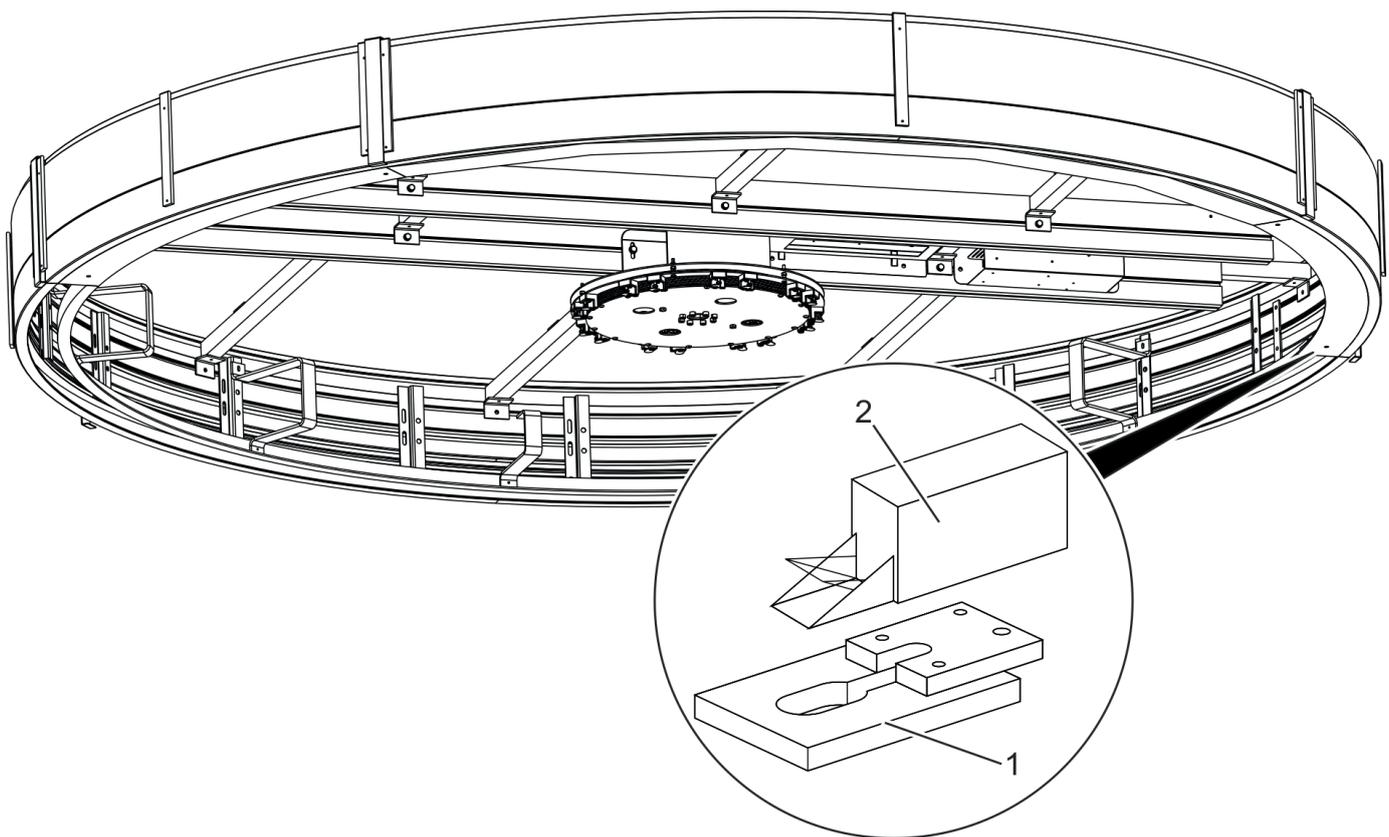

Fig. 115 Fitting rod locking device
1. Fit locking plate (Fig. 115/1) to underside of lower ceiling ring.
2. Fix bolt contact (Fig. 115/2) to underside of locking plate (Fig. 115/1).